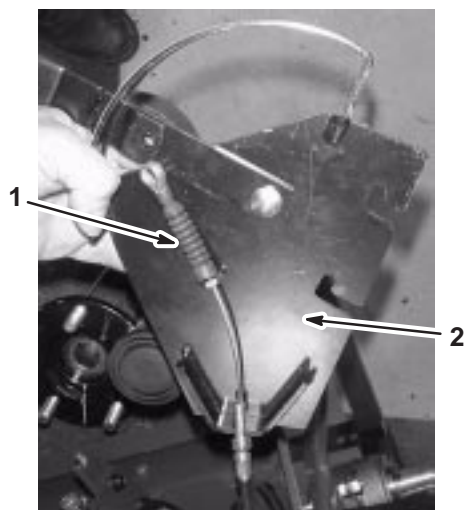

Figure 10
- Route the cable across the parking brake lever plate (Fig. 10).